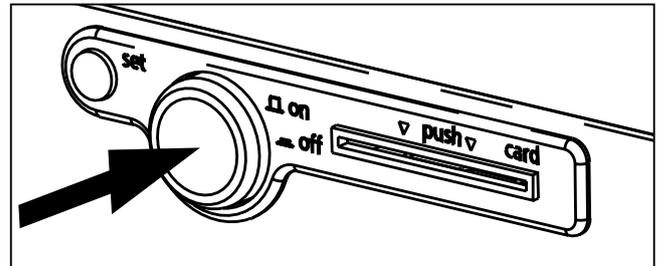

Fig. 15 Switching off the constant climate chamber
- ▶ Switching off: press the main switch so that it retracts back into the appliance (Fig. 15).